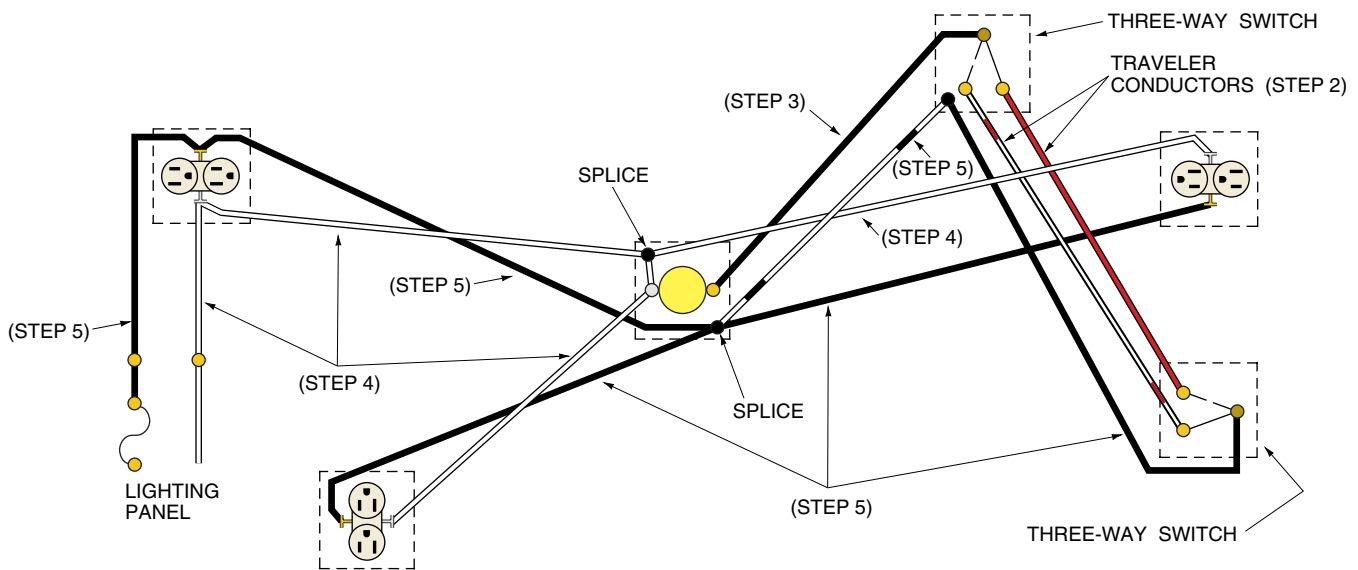

Figure 8-6 Wiring diagram of circuit shown in Figure 8-5.
2. Draw a wiring diagram showing the traveler conductors for all three-way switches, if any, as in Figure 8-6.
7. The final step in preparing the wiring diagram is to mark the color of the conductors, as in Figure 8-6. Note that the colors selected—black (B), white (W), and red (R)—are the colors of two- and three-conductor cables (refer to Chapter 5). It is suggested that the reader use colored pencils or markers for different conductors when drawing the wiring diagram.